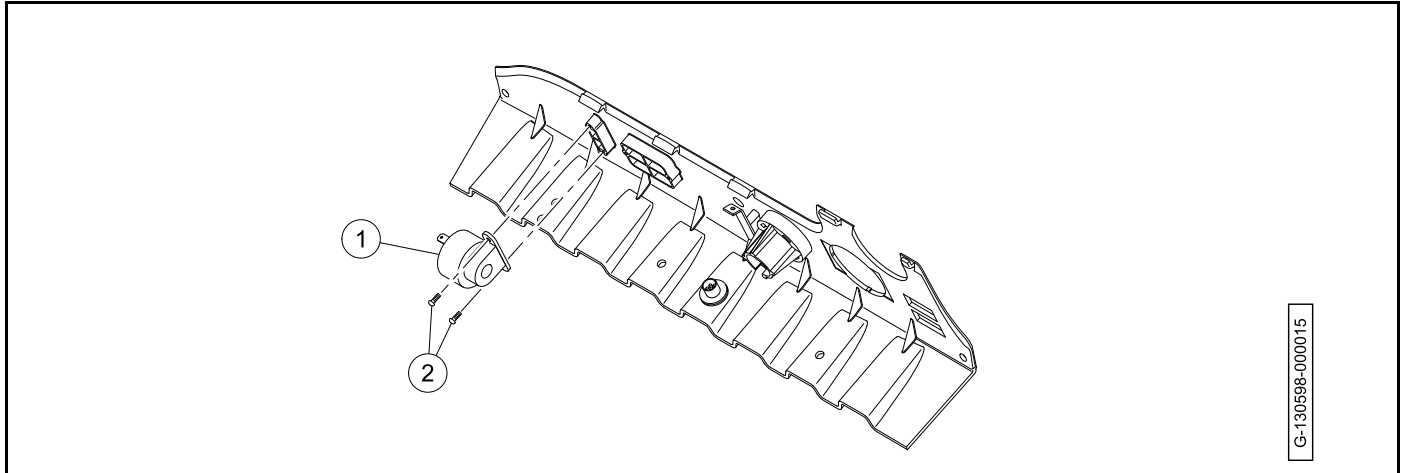

Figure 20-39 Multi-Purpose Buzzer
3. Disconnect the wires from the multi-purpose buzzer (1) (Figure 20-39, Page 20-35).
4. Remove the two mounting screws (2).
1. Install the multi-purpose buzzer (1) onto the instrument panel (Figure 20-39, Page 20-35).
2. Install the screws (2). Tighten the screws to 3.5 lb·in (0.40 N·m).